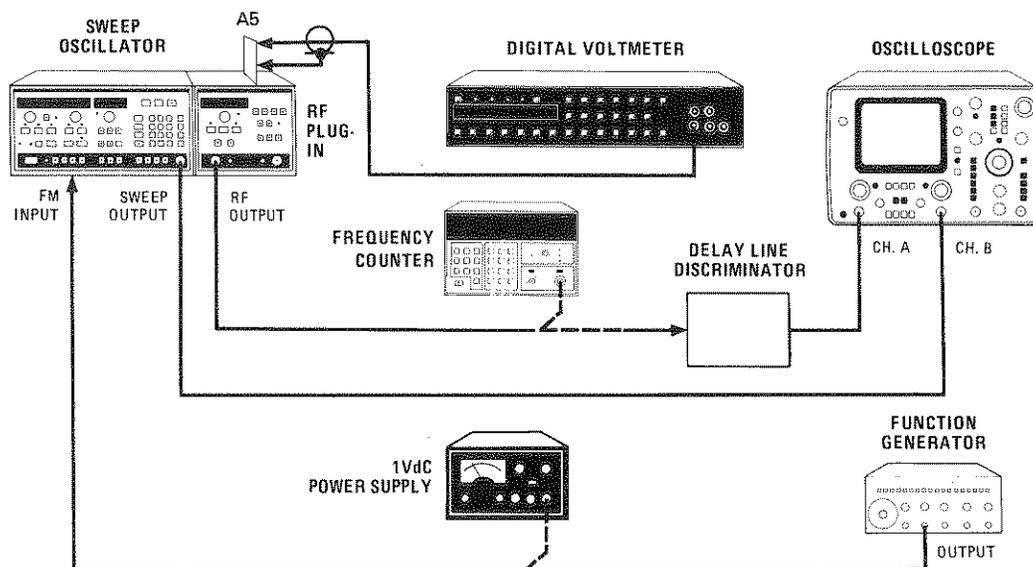

Figure 5-34. Test Setup for FM Driver Adjustments
1. Connect equipment as shown in Figure 5-34 except disconnect function generator from rear panel FM INPUT connector.